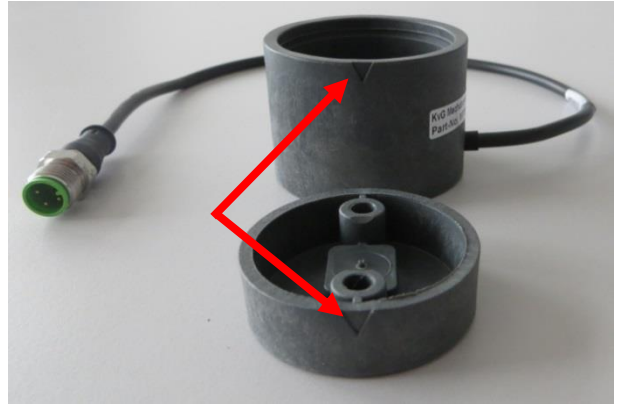

FIGURE 17 TRIANGULAR MARKINGS ON THE 12V WHEEL SENSOR
1. When the front wheels are in straight position, the screws of the sensor housing and sensor disc should be aligned with the front axle. It is also important that the sensor disc is rotated in such a way that the triangles in the disc and the sensor housing (Figure 17) are properly aligned. Only then will the wheel angle sensor produce a voltage reading.